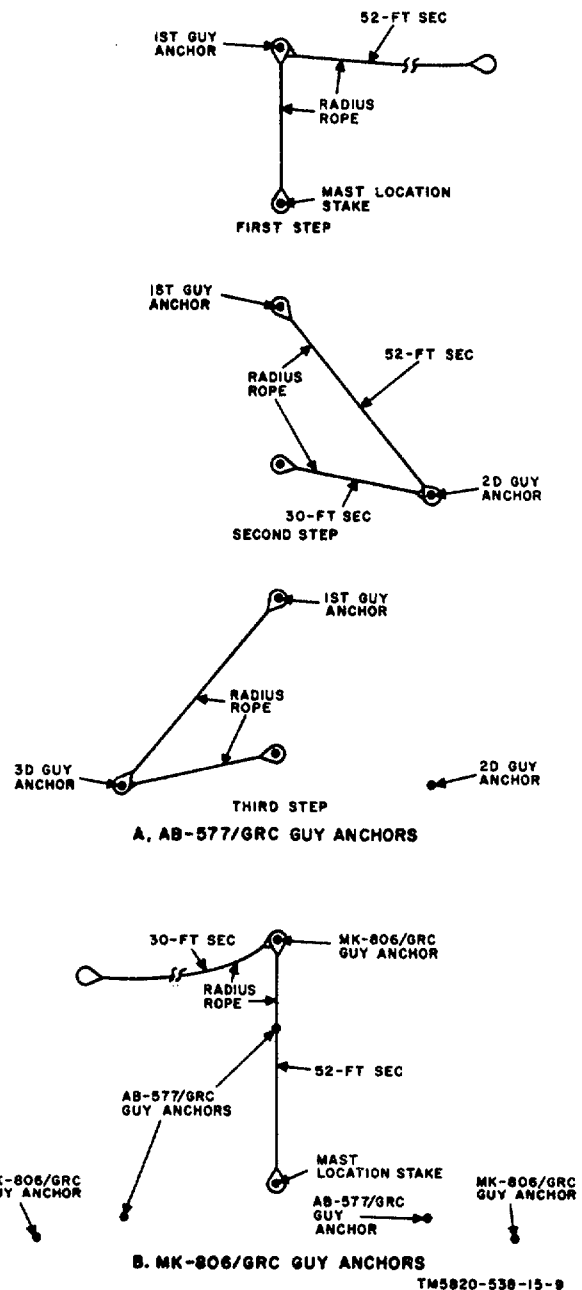

Figure 2-6. Layout of guy anchor position.
b. Procedure for Location of Guy Anchors (fig. 2-6). Mark the location for the AB577/GRC guy anchors, using the procedures given in (1) below. When the MK-806/GRC
the remaining loop in the radius rope. Stretch both sections of the rope, and mark the second guy anchor position (second step, A, fig. 2-6).
- (d) Leaving the ends of the radius rope looped over the same two stakes, stretch it in the other direction and mark the third guy anchor position (third step, A, fig. 2-6). (2) When the MK-806/GRC is to be added to the AB-577/GRC, refer to B, figure 2-6 and proceed as follows, after the guy anchor locations for the AB-577/GRC ((1) above) have been completed. Loop the end of the 52-foot section of the radius rope over the mast location stake. Mark the position of the three guy anchors for the MK-806/GRC in line with the AB-577/GRC guy anchor locations, 52 feet from the mast location stake.
- (1) When using screw-type anchors:
the mast location stake, and mark the position of the first guy anchor 30 feet away (first step, A, fig. 2-6).
- (2) Remove the mast location stake (A, fig. 2-6). Position the launcher so that it is lying on the ground, with the center of its base at the stake location, and with the top of the launcher facing midway between the second and third guy anchors.
- (3) Remove one mast section from the mast section carrier; set it aside.
(1) *Launcher.* Attach the three launcher guys (coded blue) to the launcher (fig. 2-15). Adjust the length of the two guy assemblies for the second and third guy anchors (A, third step, fig. 2-6) close to the actual length (36 feet) required after the launcher is erected. Connect the snubber end of these guy assemblies to the second and third guy anchors.